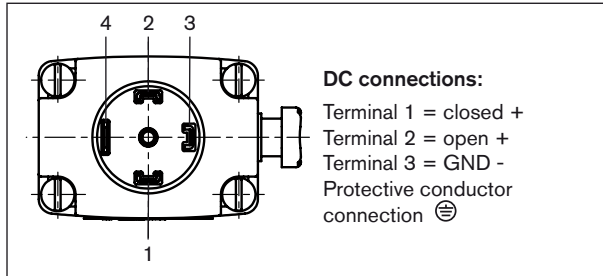

Fig. 9: Circuit diagram
- Pulse valves (variable code CF 02) as in Fig. 9: connect.